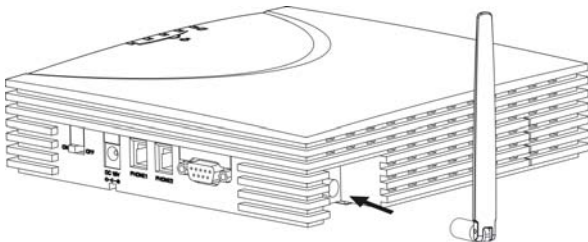

Figure 4-3 Installing an indoor antenna for ETS1000 Series FWT
In an area that signals can be transmitted and received with good quality, you can install an indoor antenna, as shown in Figure 4-3.
2. Align the indoor antenna with the antenna port on the terminal host in the direction shown in Figure 4-3, and then screw the antenna, ensuring that the connection is secure.